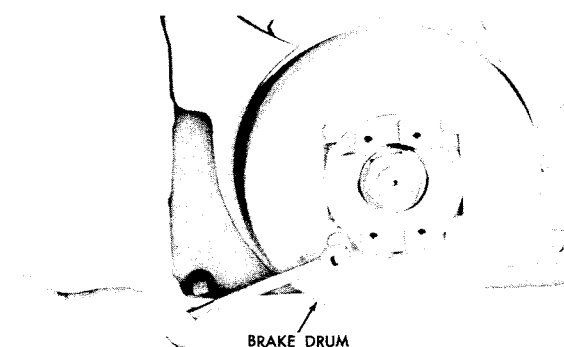

Fig. 5-4. Removing brake drum (-1 model)
(1) Remove four self-locking bolts which retain the parking brake drum (fig. 5-4). Remove the brake drum.